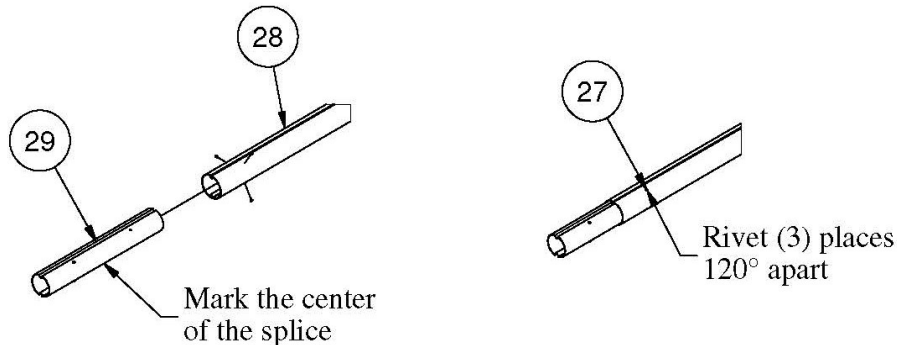

Figure 1
2. Install the splices (item 29) at each joint of the drive tube. See figure 1.
Refer to Figure 1 for the following step